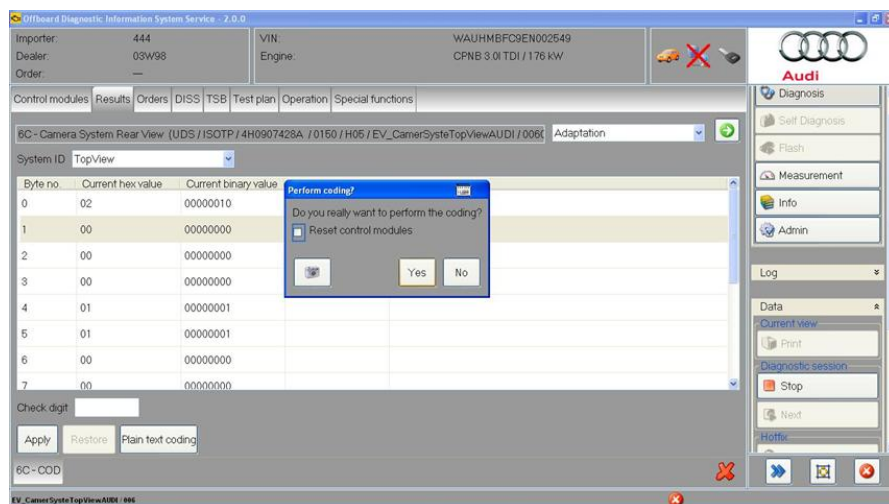

Figure 8. Uncheck ‘Reset control modules’. Perform the coding.
6. On the confirmation page, uncheck the option to *Reset control modules*. Select “Yes” (Figure 8). Two more errors will appear, stating that the values cannot be checked, and that the read operation failed. Click past these errors and the new coding value will now be in byte 1.